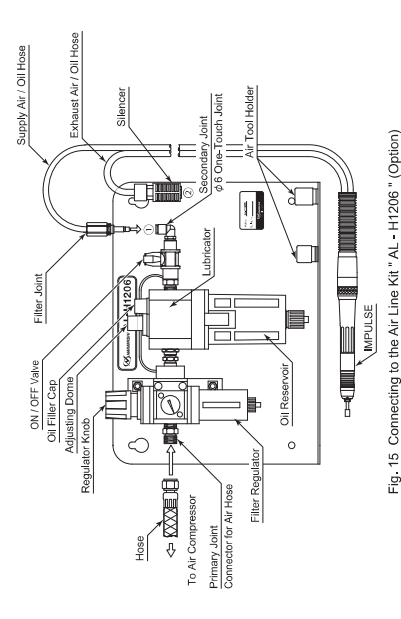

Fig. 15 Connecting to the Air Line Kit *AL - H1206* (Option)
- Connect the Filler Joint of the Air Grinder to the Secondary Joint (ø6 One-Touch Joint) on the Air Line Kit (Fig. 15 (1)).
- Place exhaust air / oil hose with silencer into an empty container (Fig. 15 (2)). (Exhaust outlet air and oil from the Silencer).